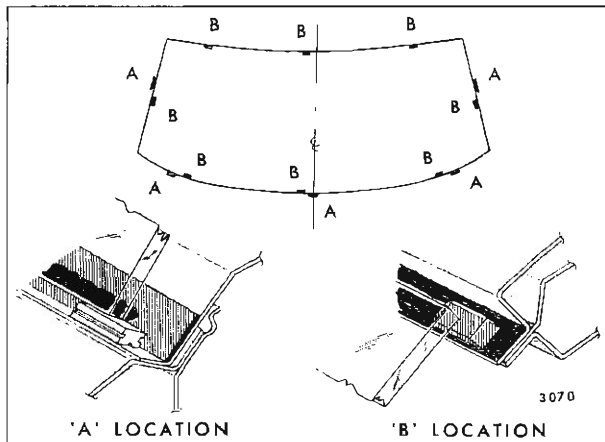

Fig. 4-8—Glass Spacer Installation
4. Using black weatherstrip adhesive or adhesive caulk material, cement flat rubber spacers #4459429 or equivalent to window opening pinchweld flanges. As shown in Figure 4-8, location "B", spacers should be positioned to provide equal support around entire perimeter of glass.
5. Using black weatherstrip adhesive or adhesive caulking material, cement rectangular spacers #4871330 (.34 x .44 x 1.0) or equivalent to window opening rabbet to support lower edge of glass and restrict lateral movement. Figure 4-8, location "A", illustrates rectangular spacers positioned in a typical windshield installation. On smaller glasses, only 2 rectangular support spacers are required across the bottom.